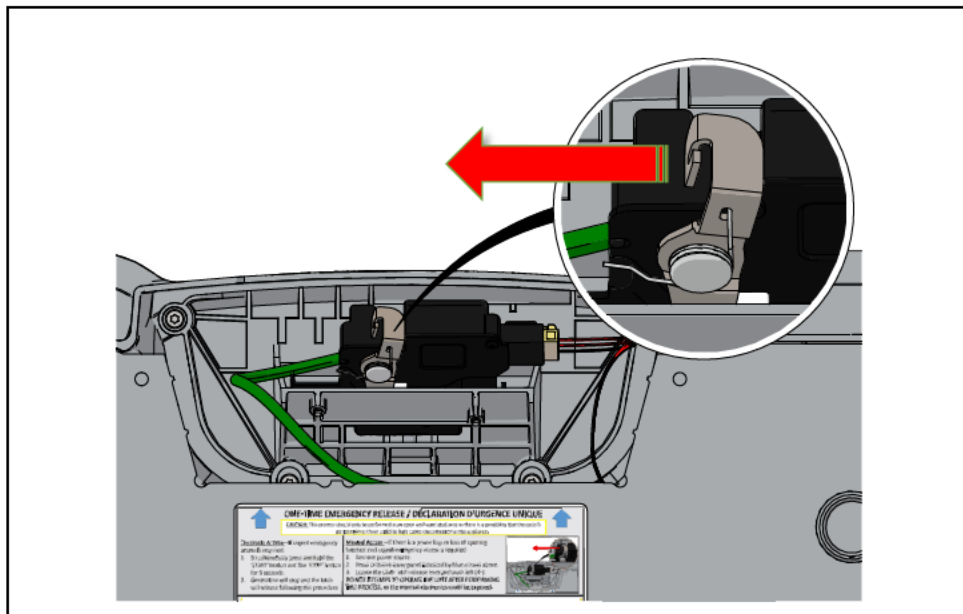

Figure 17 Manual Release lever location after access panel is broken
Step 5: Find the latch release lever (shown in Figure 17). It is a silver coloured lever on the latch assembly at the lowest point of the latch. Push the lever to the side to release the latch and the NUTROZ device lid will open.